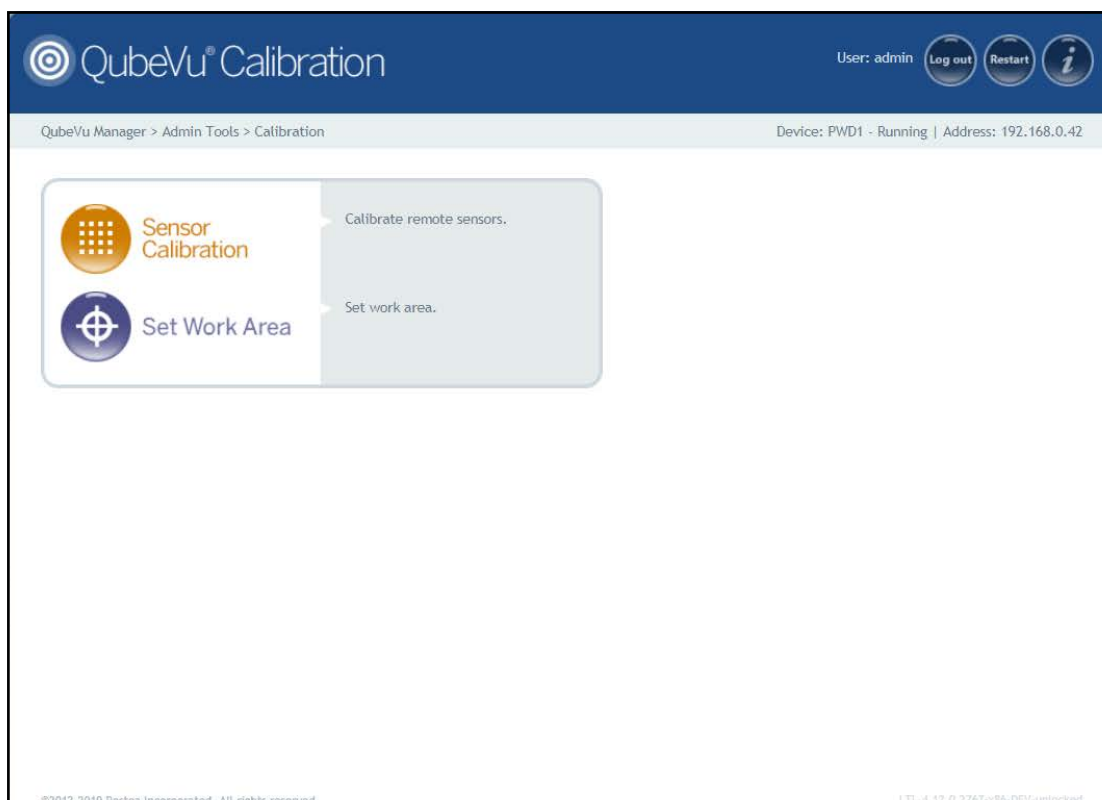

Figure 5-1. Calibration Menu
1. Press  from the **Calibration** menu (Figure 5-1 on page 24) to enter the **Remote Sensors Calibration** menu.
1. Press  **Set Work Area** from the **Calibration** menu (Figure 5-1 on page 24) to enter the **Set Work Area** menu.